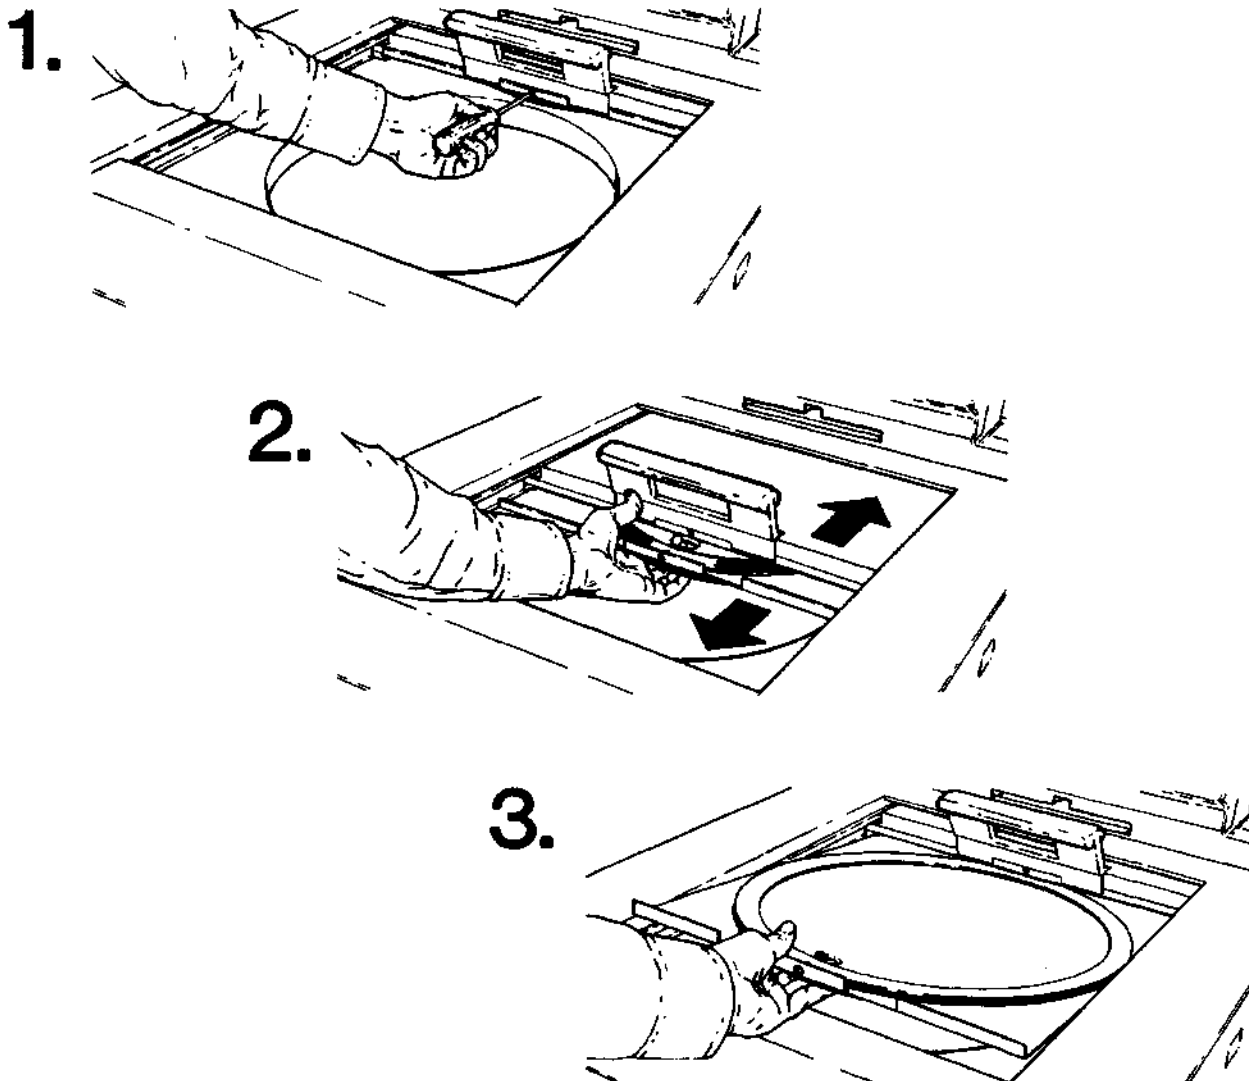

Figure 7-1. Door Seal Removal
1. Open the chamber door all the way. Using a #1 phillips (or Reed-Prince) screwdriver, loosen the quarter-turn fastener (turn counterclockwise) on the front edge of the door (figure 7-1, view 1).
2. Close the chamber door halfway, then locate the hole in the center of the tray assembly, underneath the door (figure 7-1, view 2). Insert your fingers approximately 13mm (1/2 inch) into the hole and pull forward on the silver seal tray until the hole is visible. Continue pulling tray out while pushing back on the door handle until the door is fully open and the seal tray assembly is separated from the door. Remove the sealing assembly.